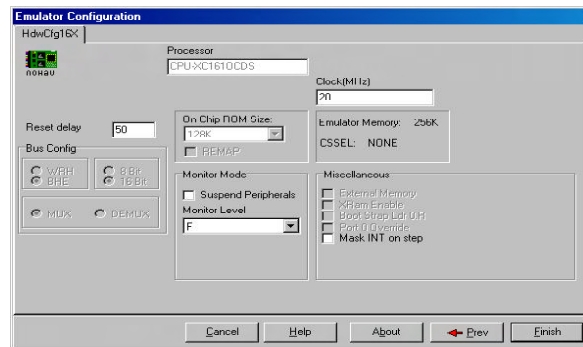

Figure 5 Emulator Configuration Screen
- 9) The Emulator Configuration HdwCfg16X tab will appear as in Figure 5. Proceed by clicking the Finish button.